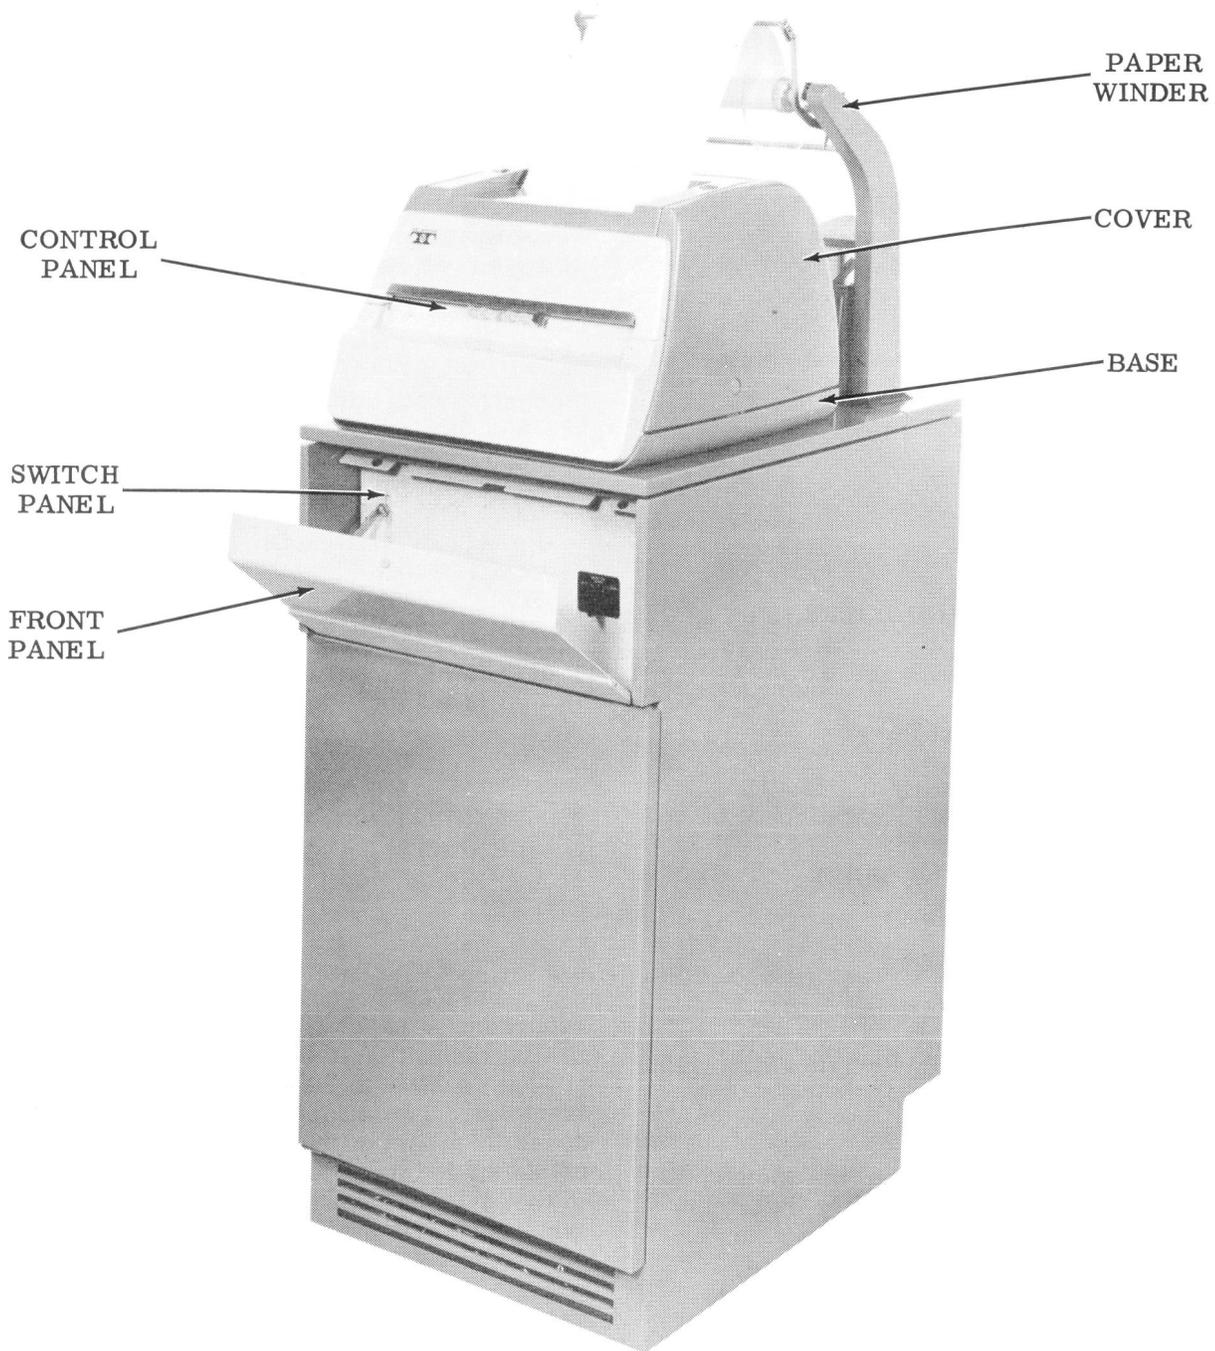

Figure 1 - DATASPEED Printer (Receive-Only)
1.01 This section describes the method of removing and replacing the main components of the DATASPEED Printer (Receive-Only), as illustrated in Figures 1 and 2. If further disassembly of these components is required, refer to the detailed illustrations of parts in Sections 578-500-800 through 578-500-802 (formerly Sections 592-820-800 through 592-820-802). Also, for further disassembly of the recorder and paper transport mechanism, refer to Section 578-500-703.
2.22 If the printer has a blank front panel for use with a 202D or 402D data set, or for direct interface with a DATASPEED installation (Figure 1), remove the front panel as follows: